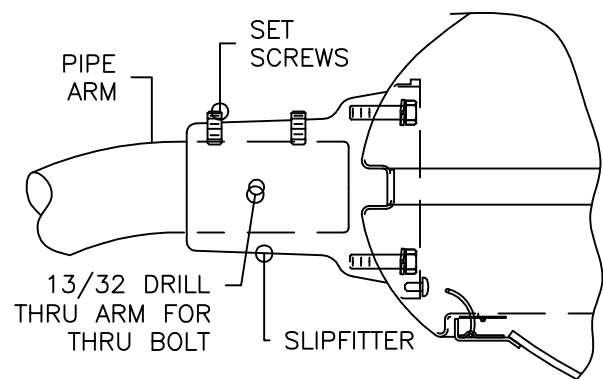

FIGURE 5
6. INSERT THROUGH BOLT, TIGHTEN WITH LOCKNUT. TIGHTEN SET SCREWS. **SEE FIGURE 5.**